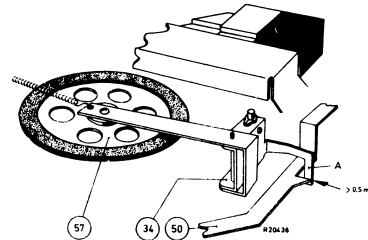

Fig 28
- A clearance (> 0.5 mm) should be between the control bracket 34 of the idler wheel 57 and the start strip 50, see fig. 28. This can be adjusted by bending lip A of the control bracket.
This can be adjusted by bending lip A of bracket 34 (see fig. 28).